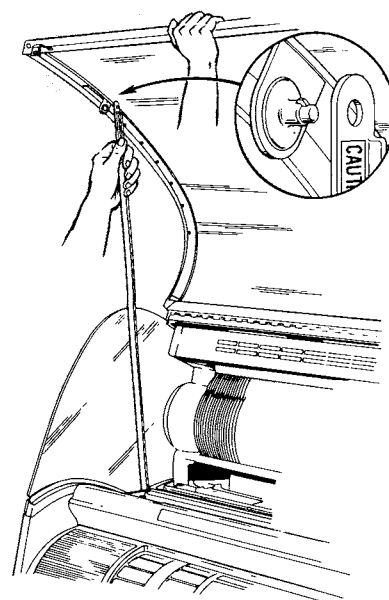
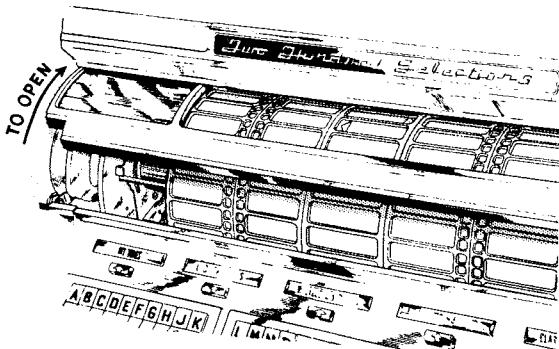

Figure 2.
Figure 6.
To lower the lid, support it with the right hand (*Figure 2*), disengage the support rod by pressing the safety catch push-button with the left hand and uncouple the rod. Unhook the support rod from the latch plate by lifting and pressing toward the back of the cabinet. **DO NOT ATTEMPT TO MOVE CABINET WITH LID UP.**
1. Open the cabinet lid, setting the support, Figure 2, and lift the drum cover, Figure 6.